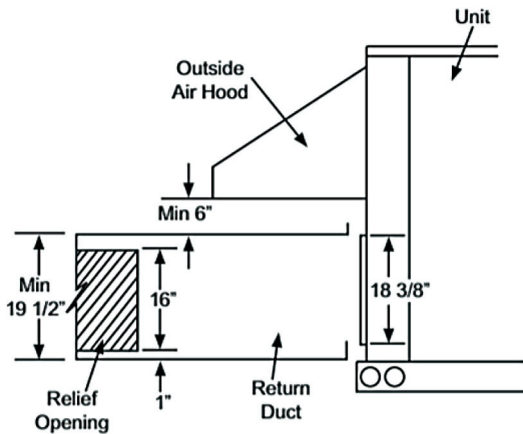

Fig. 31 — Relief Damper
1. Install the field provided horizontal ductwork onto the unit. Duct height must be at least 19 1/2 inches high, however the duct can be no taller than the top of the relief opening in the bottom panel, or airflow into the outside air hood will be restricted. See Fig. 31.
2. Cut a 16 in. x 36 in. opening in the return duct for the relief damper (see Fig. 31).